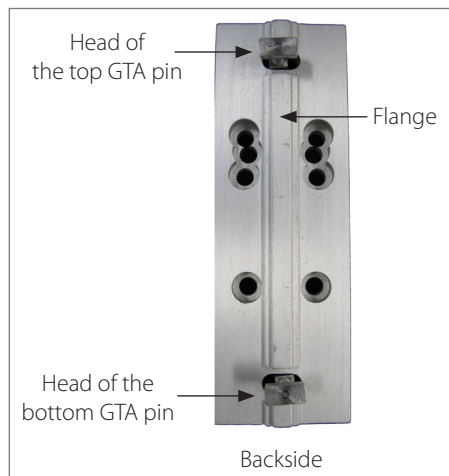

Figure 1
1. With the AHM Arm locked in the highest vertical position, support the bottom of the arm and guide the head of the top GTA pin into the opening of the rail (**Figure 1**). Ensure the flange on the Mounting Adapter is properly aligned with the rail. Slide the Mounting Adapter up so that the head of the bottom GTA pin slides into the opening of the rail.